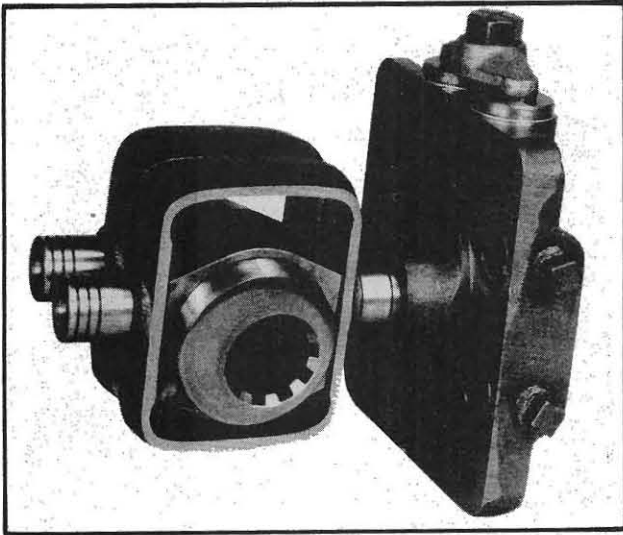

Fig. 310
c. Check the assembly by inserting the two pistons in the two cylinders in one of the valve chambers, if they can be inserted in cylinders, piston assemblies are correctly placed on the cam blocks, see Fig. 310.